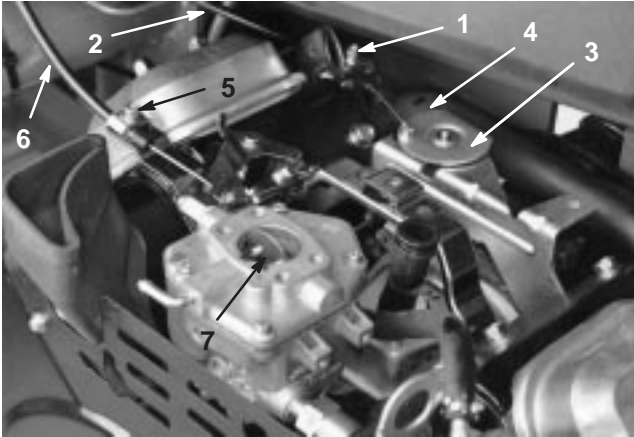

Figure 36
1. Loosen the cable clamp screw securing the cable to the engine (Fig. 36).
3. Pull firmly on the throttle cable until the back of the swivel contacts the stop (Fig. 36).
3. Pull firmly on the choke cable until the choke butterfly is completely closed, then tighten the cable clamp screw (Fig. 36).